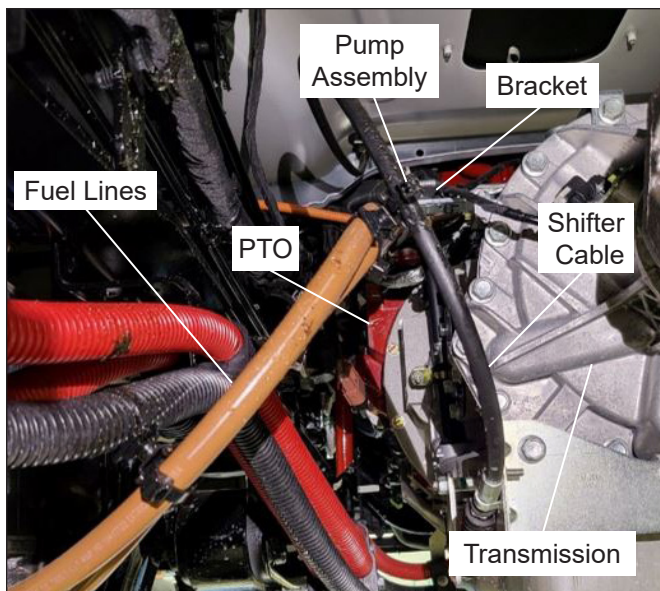

Figure 2 — Fuel Lines and Shifter Cable Inspection Angle One
4. Locate the transmission [silver aluminum casing] and identify the fuel line(s) [brown], shifter cable [black], PTO [blue or red], and fuel line bracket (refer to Figures 2 and 3).